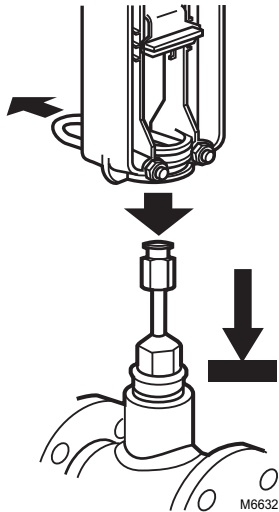

Fig. 2. Attaching Actuator to Valve Collar.
1. Place the actuator on the valve with the U-bolt around the valve collar (Refer to Fig. 2).